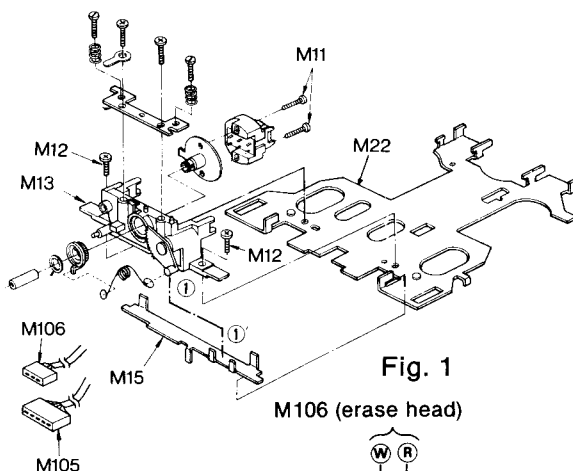

Fig. 1
(See Fig. 1)
3. Remove the two screws (M11) holding the head. (See Fig. 1)
1. When attaching the head base, be sure (1') of M15 (head switching lever) and the gear (1) of the head base mesh properly. (See Fig. 1.)